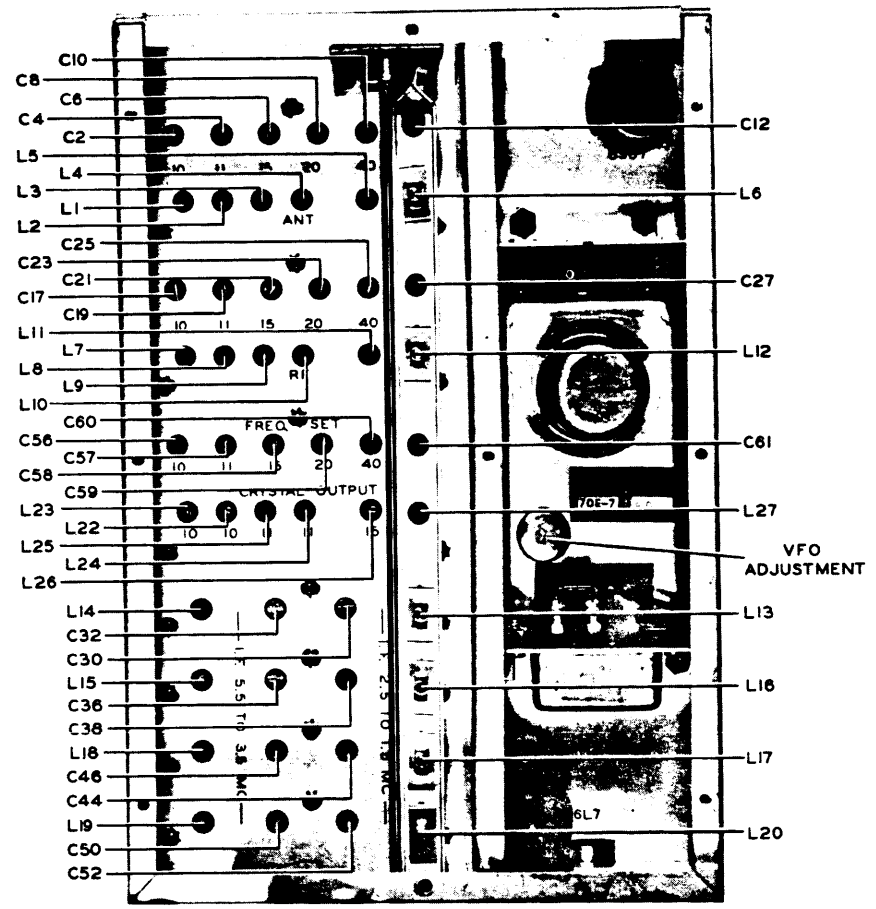

FIGURE 5-1 RF, VARIABLE IF, AND OSCILLATOR ADJUSTMENT
5-22. GENERAL. - The variable i-f channel should be aligned after the 500 kc fixed channel has been aligned. There are two channels in the variable i-f (2.5 to 1.5 mc and 5.5 to 3.5 mc), therefore, two sets of coils must be aligned. The low frequency channel (2.5 to 1.5 mc) must be aligned first. The alignment follows standard procedure where permeability tuned coils are concerned, i.e., tune the capacitor trimmer for the high frequency end of the tuning range and the iron core for the low frequency end of the tuning range. In the high frequency channel (5.5 to 3.5 mc) the iron cores tune very broadly. Refer to figure 5-1 for alignment adjustments.
There is only one adjustment on the VFO. This is a variable condenser which may be observed through the top of the oscillator container by removing a clip plug. (See figure 5-1.) The main object in aligning the VFO is to make the 2mc and 3 mc points fall exactly ten turns of the vernier dial apart, after which the dial may be loosened, if necessary, and the dial calibration corrected. Be sure the 500 kc i-f channel is aligned as indicated in paragraphs 5-16 thru 5-20 before attempting to align the VFO
- d. Rotate the inductor trimmers in L22 and L23 for maximum reading on the voltmeter. (See figure 5-1.)